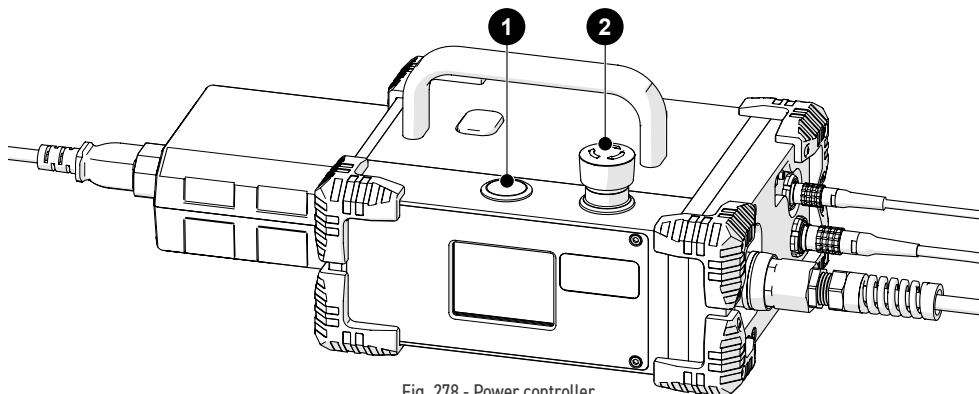

Fig. 278 - Power controller
3. Locate the **2** red stop push-button on the power controller. Rotate this button clockwise to unlatch (Fig. 278).
4. The **1** power button (Fig. 278) on the power controller activates the system.